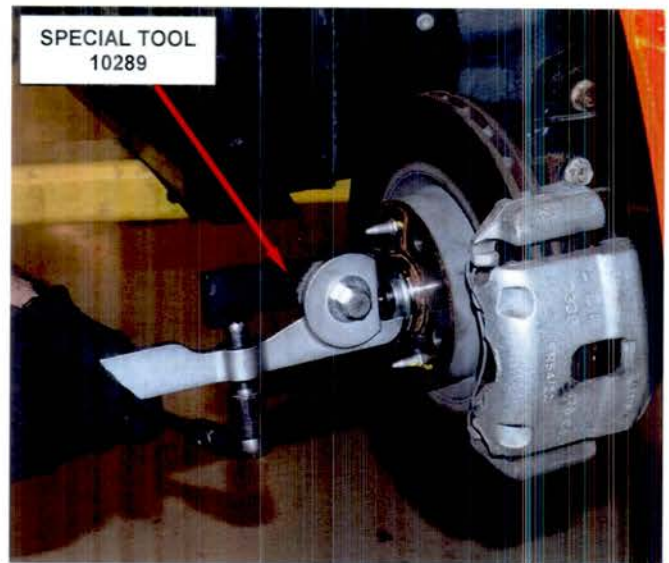

Figure 10 – Stake Hub Nut
- b. Stake the hub nut using tool 10289 so the metal rolls into the keyway slots in the halfshaft (Figure 10).